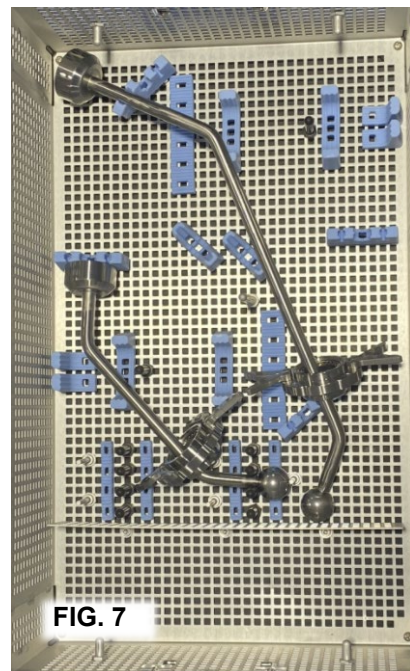

FIG. 7
1. If using a sterilization pouch, place each instrument in its own individual pouch. If using a sterilization tray, read the sterilization tray instructions for use before proceeding. Ensure that the sterilization tray has been cleaned according to the sterilization tray instructions for use and load the device into the tray according to FIG. 7.